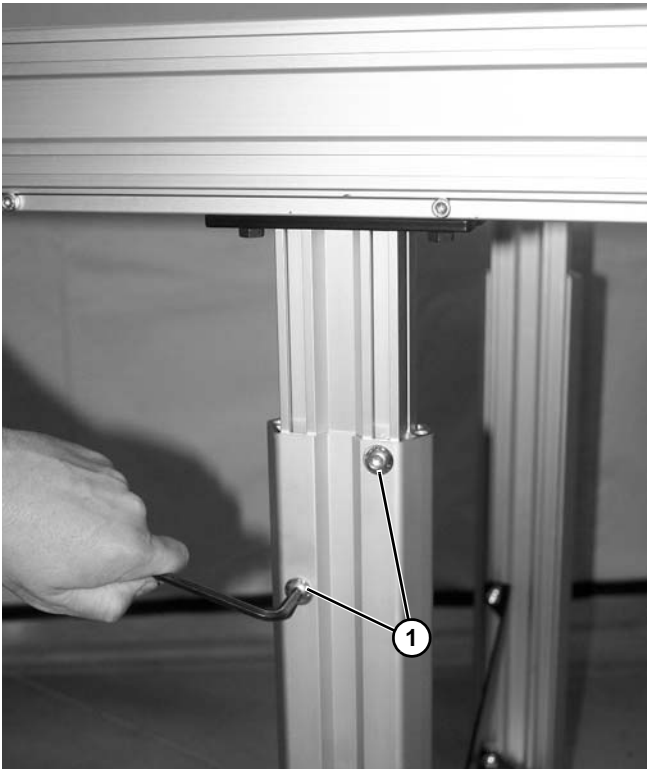

Figure 27
2. Loosen two screws (**Figure 27, item 1**) on each side of conveyor.